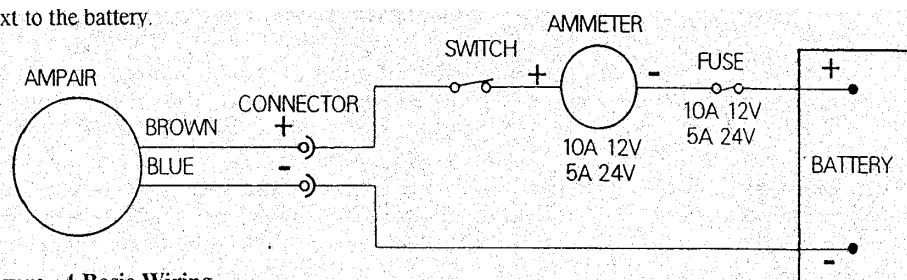

Figure. 4 Basic Wiring.
e) Wiring Options: in Fig 4. two optional components have been added to show where they might be wired in the circuit. The switch, which may be used as a simple means of charge control, should be rated at 15 Amps DC to ensure long life.